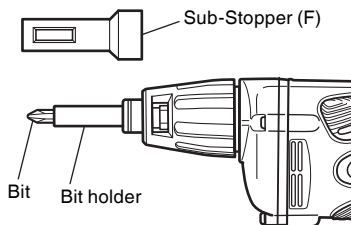

Fig. 8
3. Dismounting the bit (Fig. 8)